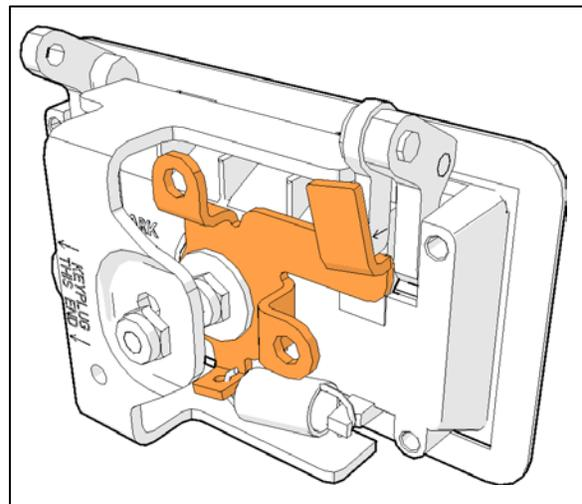

FIGURE 1
2. Check the existing linkage rod lever. If the existing entrance door handle has the same lever than the new handle (part #780432, Figure 1), install the new handle without any modification. If not, move to step 4 (option B).